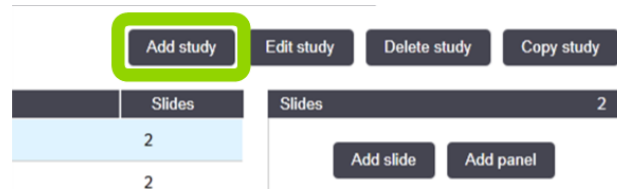

Figure 78: Add study button
2. Click **Add Study** (see Figure 78).